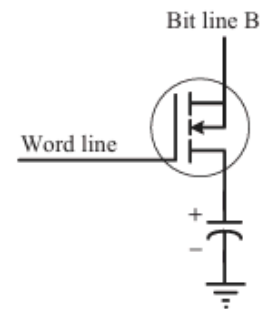

Fig. 2.12 DRAM cell implementation
2.2.2.2 Dynamic RAM (DRAM) Dynamic RAM stores data in the form of charge. They are made up of MOS transistor gates. The advantages of DRAM are its high density and low cost compared to SRAM. The disadvantage is that since the information is stored as charge it gets leaked off with time and to prevent this they need to be refreshed periodically. Special circuits called DRAM controllers are used for the refreshing operation. The refresh operation is done periodically in milliseconds interval. Figure 2.12 illustrates the typical implementation of a DRAM cell.